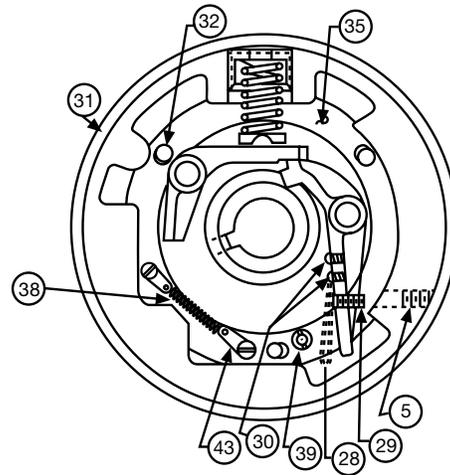

Figure 6
3. See Figure 6 for Limit Switch Actuating Mechanism adjustment.